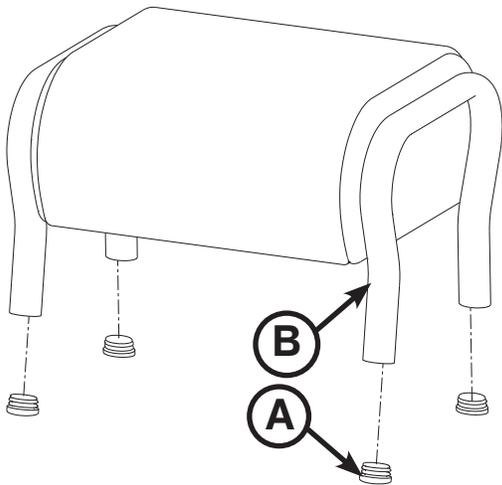
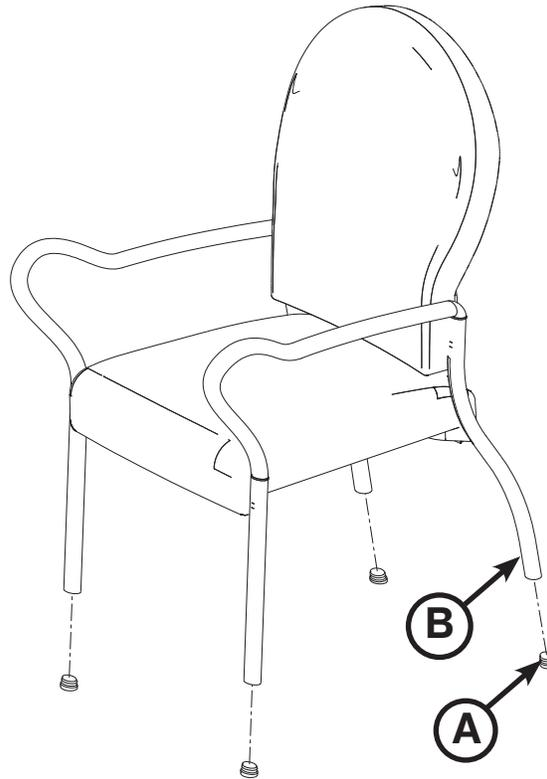

Figure 7: Ottoman Leg Glide Replacement
Figure 8: Chair Leg Glide Replacement
2. Using a hammer and slotted screwdriver, carefully remove the damaged leg glide (A) from the leg (B) as shown in Figure 7 (ottoman leg) or Figure 8 (chair leg). Discard the glide.